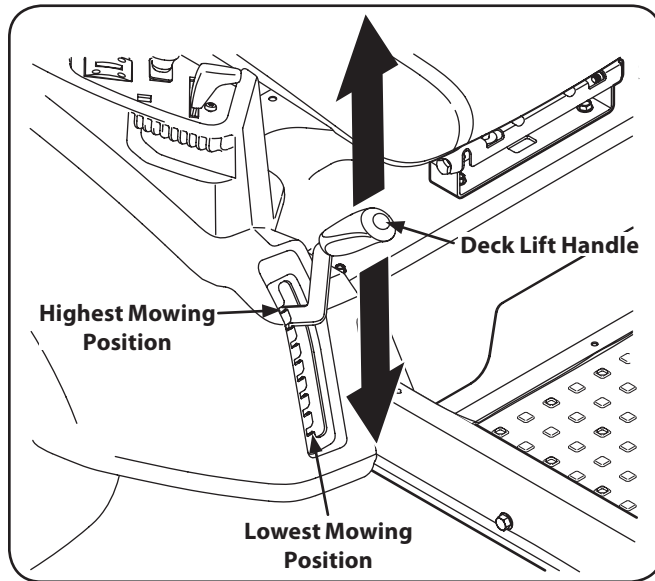

Figure 7-3
2. Using the deck lift handle, raise the deck to the position that provides the most horizontal run of the belt between the deck idler pulleys and the PTO pulley on the bottom of the engine. See Figure 7-3.
6. Lower the deck into the lowest position using the deck lift handle. See Figure 7-3.
- Place the deck lift handle in the highest mowing position See Figure 7-3.